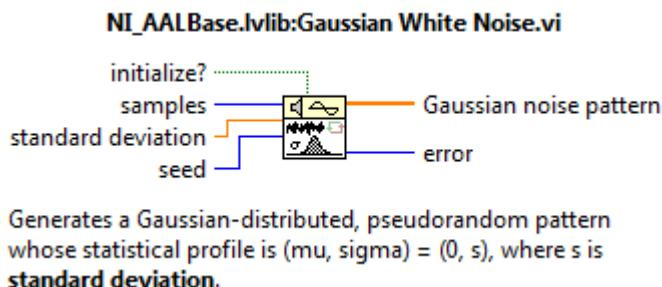

Fig. 3. Gaussian White Noise.
- You can use **Gaussian White Noise.vi** function in Fig. 3 to generate random Gaussian white noise.